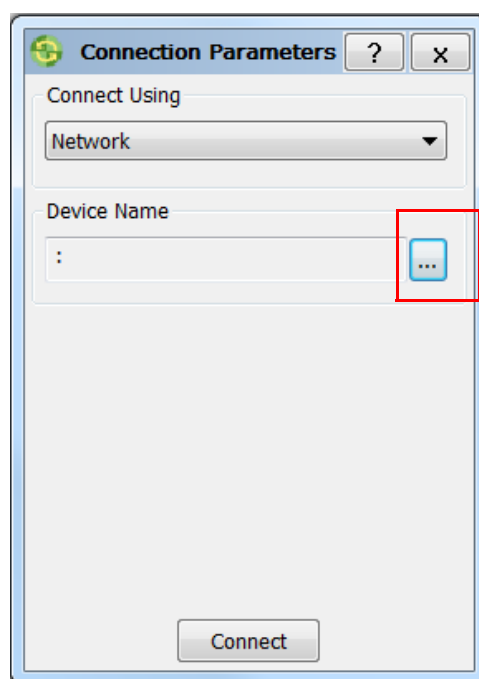

Figure 11: Connect to the Device Using Your Network
3. Select **Network** from the **Connect Using** drop-down list, then click the dialog button from **Device Name** (Figure 11). The **Select Network Device** screen appears.